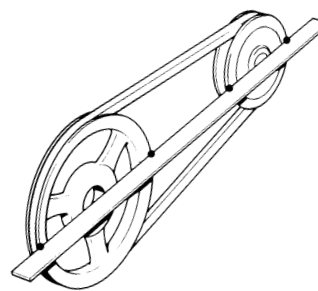

Abb. 41 V-belt pulley adjustment
- Check that after tension adjustment and tightening the motor mounting nuts, both pulleys are in a straight line to avoid excessive wear of the V-belt. Hold a straight edge against compressor and motor V-belt pulleys as shown in Abb. 41: edge must be parallel to the v-belt.